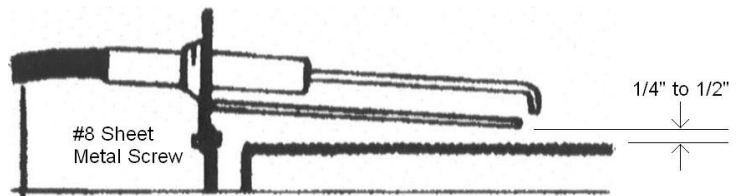

Figure 2 – Igniter Probe
- B. Using the #8 sheet metal screw, mount the BP-202E igniter as shown in Figure 2.